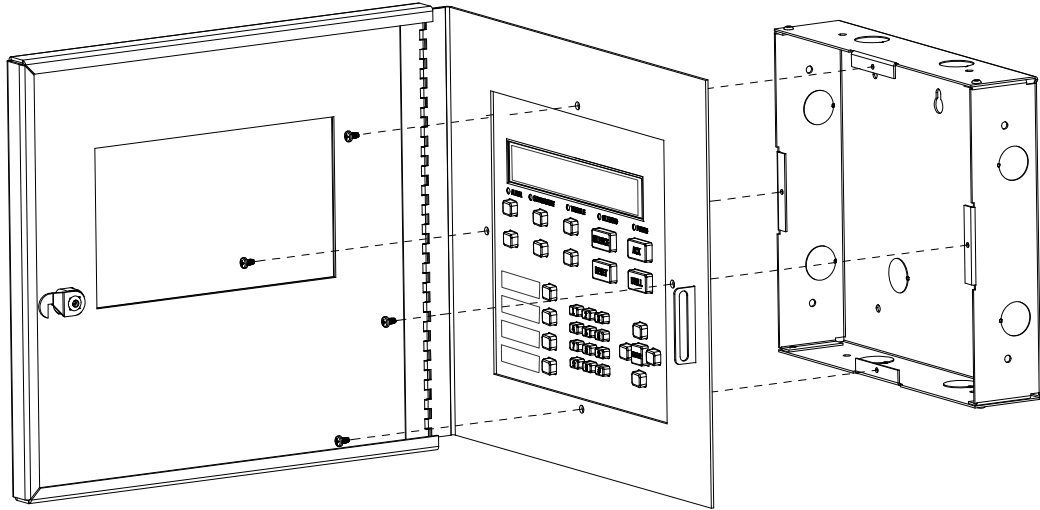

Figure 4.24 Attaching Annunciator / Door Assembly to Backbox
9. Attach the door assembly to the backbox using the screws provided. Refer to Figure 4.24.